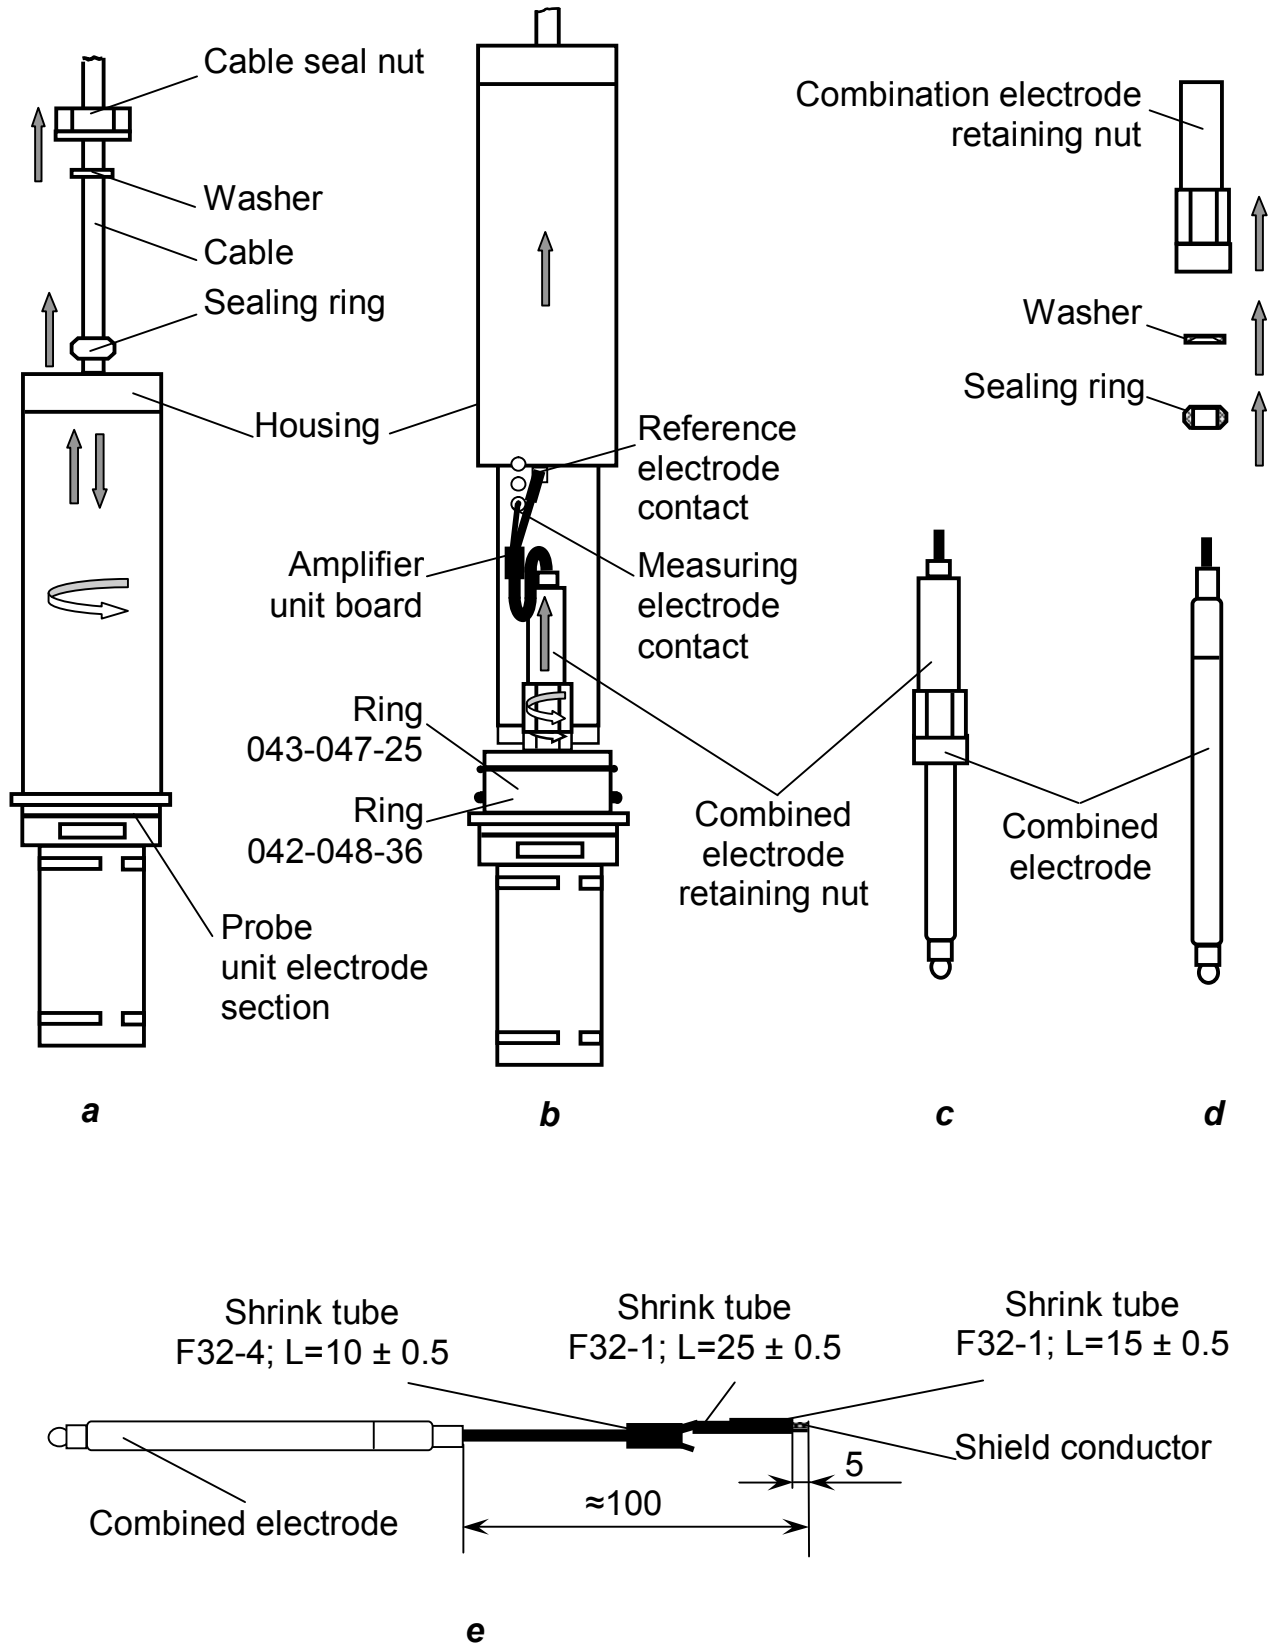

Figure 3.1
To replace an electrode according to Fig. 3.1, perform the following steps:
- undo the cable seal nut and move it along the cable (Fig. 3.1 a);
- disconnect the combination electrode from the board contacts (Fig.3.1 b);
- unscrew the combination electrode retaining nut and remove, while turning, the electrode with nut from the probe unit electrode section (Fig.3.1 c);
- remove the nut, washer and sealing ring from the electrode (Fig.3.1 d).
Prepare the cable of a replacement combination electrode according to Fig.3.1 e. To this end, proceeds as follows:
- solder the combination electrode to the corresponding contacts on the amplifier unit board (Fig.3.1 b), having put the shrink tube F32-1, $L=25 \pm 0.5$ onto the shield conductor running from the reference electrode; move the shrink tube over the shield conductor soldering joint and heat shrink it;